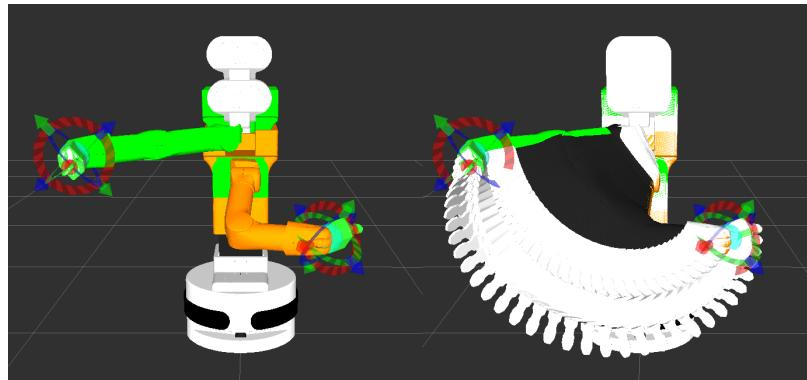

Figure 124: Sequence of plan
5. The sequence of images in figure 124 shows the result of clicking the “Update” goal pose with random inrviz, then clicking “Plan and Execute” in the simulator. Rviz will visualize the plan before executing.